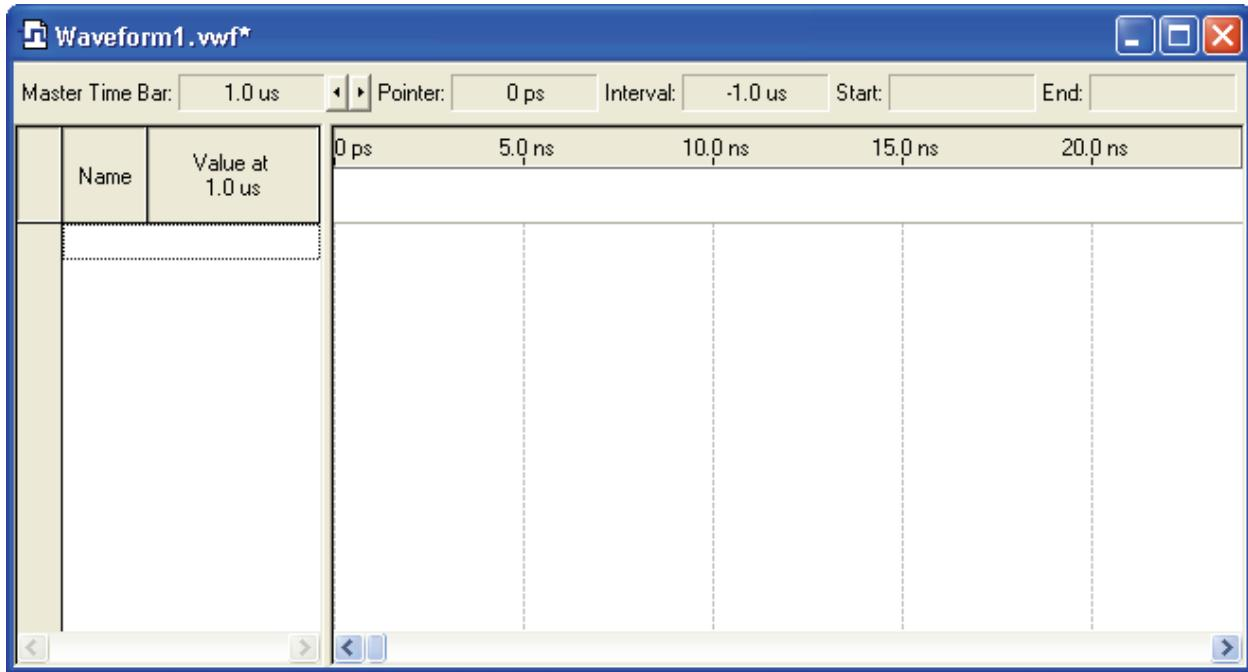

Figure B.5 A new Vector Waveform window for specifying the test vectors for simulation.
3. Select **Vector Waveform File** and click **OK**. A new Vector Waveform window similar to Figure B.5 opens up.
From the Vector Waveform window as shown in Figure B.5, you will select the test vectors to be simulated. Test vectors are the input and output signals from your circuit design.